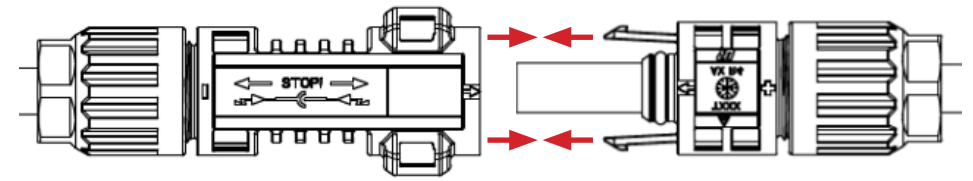

Figure 2. Jumper cables MC4 connection.
**Make sure that the jumper cables are fully engaged when two modules are connected to each other, and connectors are locked completely (Figure 2).**